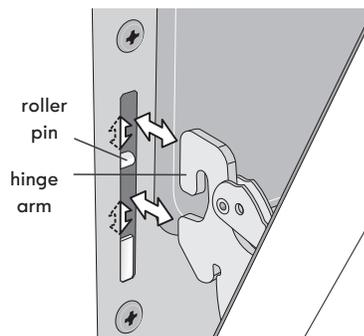

Figure 25: Hinge pin locations
5. With the oven door in the broil stop position, lift the oven door hinge arms over the roller pins located on each side of the oven frame (See Figure 25).
2. Holding the oven door at the same angle as the removal position, seat the hook of the hinge arm over the roller pins located on each side of the oven door frame (See Figure 25). The hook of the hinge arms must be fully seated onto the roller pins.